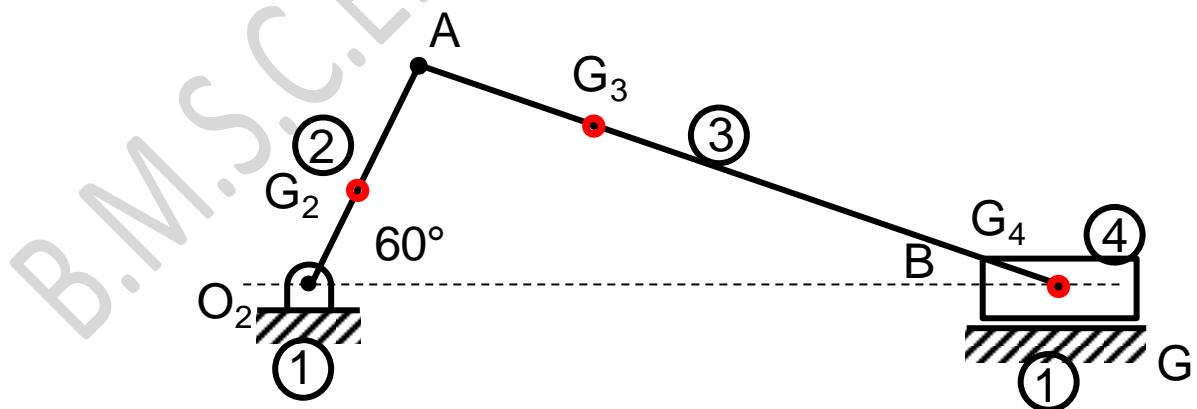

Fig. 7b
- b) A horizontal reciprocating engine mechanism as shown in Fig. 7b with crank  $O_2A$  length 7.5 cm is rotating clockwise at a constant speed of  $2000\text{ rpm}$  and connecting rod  $AB$  has a length of 28 cm. Determine the magnitude and direction of all inertia forces for a configuration that has turned  $60^\circ$  from horizontal from the line of stroke. CG of links 2 and 3 are located on the links at a distance i.e.  $O_2G_2$  and  $AG_3$  are 5 and 12 cm respectively. The mass of links 2, 3, and 4 are 2.5, 4, and 3 kg respectively and the mass moment of inertia of links 2 and 3 are 60 and  $500\text{ kg-cm}^2$  respectively.